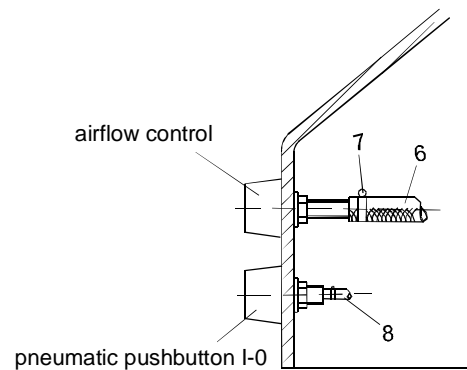

Fig. 2
8. Plug in woven-fabric flexible tubing (6), 14 mm dia., for air bubble bath onto the nozzle of the air regulator and fasten by means of clamp (7) (see Fig. 2). The connection is located inside the cowl (cover)..
9. Push plastic tubing (8) (Fig. 2), 1,5 mm dia. from the pneumatic pushbutton onto the nozzle of the pressure transducer at the terminal box.
1. Switching the unit ON or OFF is done by pressing the pneumatic pushbutton built into the cover (cowl) (Fig. 2)
inside the pool (Fig. 2).